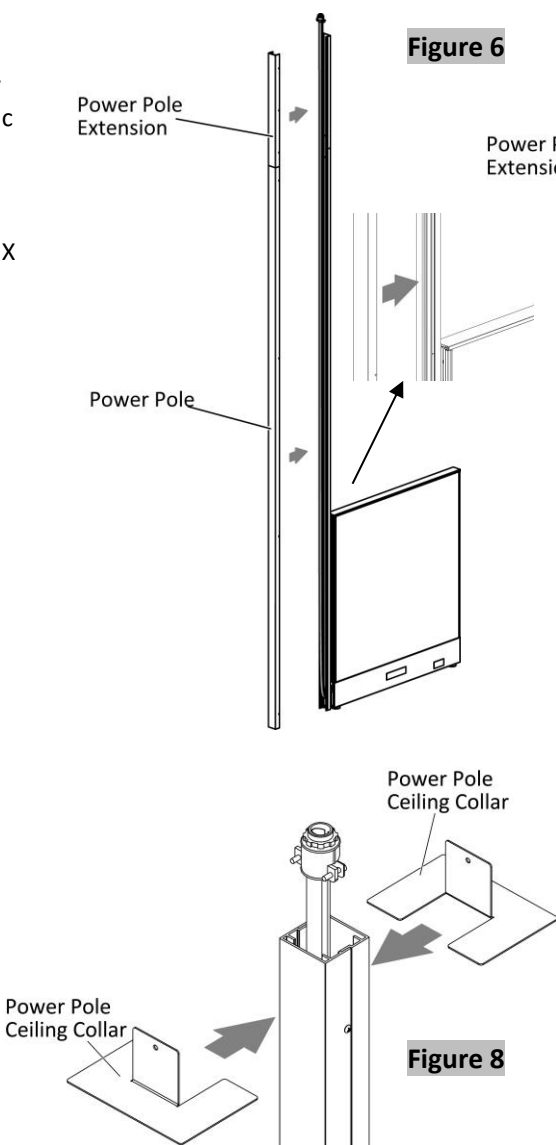

Figure 6
- 9. Lay the cables in the power pole. Engage the two halves of the power pole together and securely fasten them with #6-32 X 1/4" Zinc Round Head Phillips Drive Type F, (Figures 6 & 7).